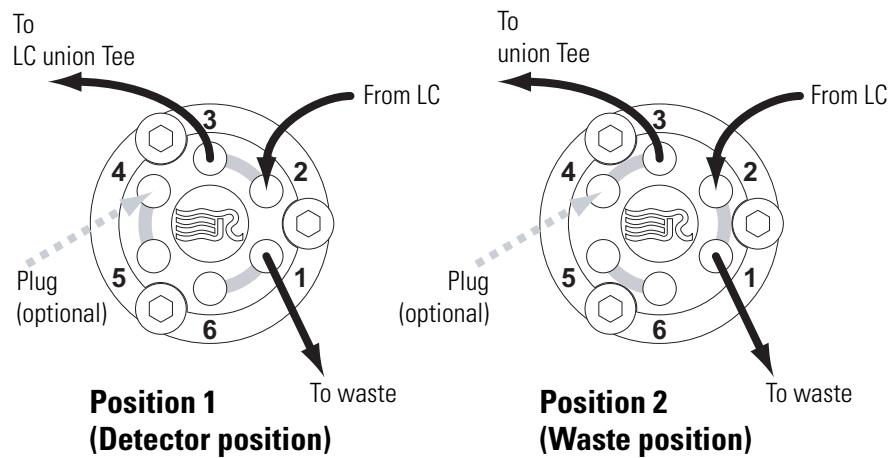
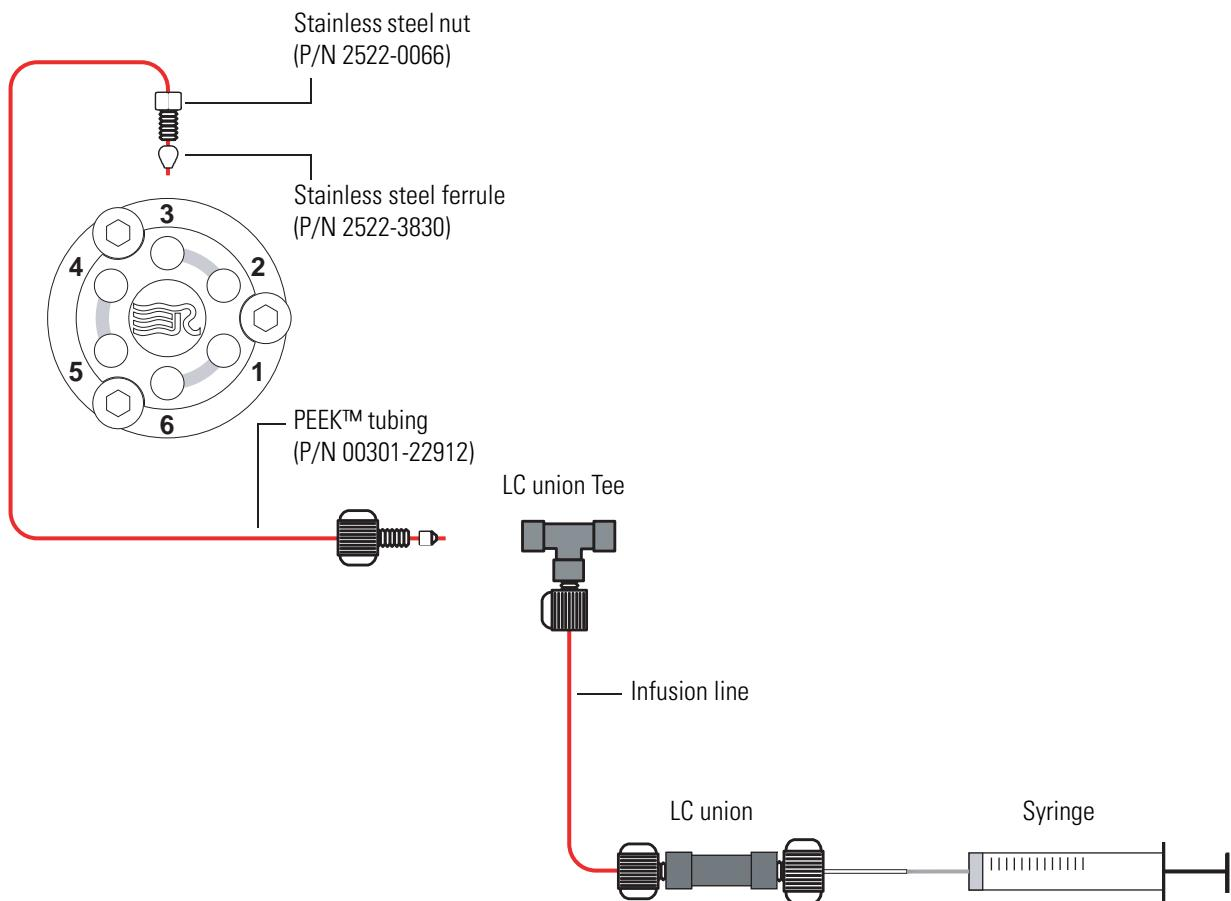

Figure 5-11. Six-port switching valve connections
Figure 5-12. Connecting the LC union to the union Tee
- With a fingertight fitting and a ferrule, connect the other end of the tubing to the free end of the union Tee. See Figure 5-11 and Figure 5-12.
1. With a fingertight fitting and a ferrule, connect a length of PEEK™ tubing to port 2 of the switching valve. Figure 5-11 on page 5-26 shows the ports of the switching valve.
1. With a fingertight fitting and a ferrule, connect a length of red PEEK™ tubing to port 1 of the switching valve. Figure 5-11 on page 5-26 shows the ports of the switching valve.